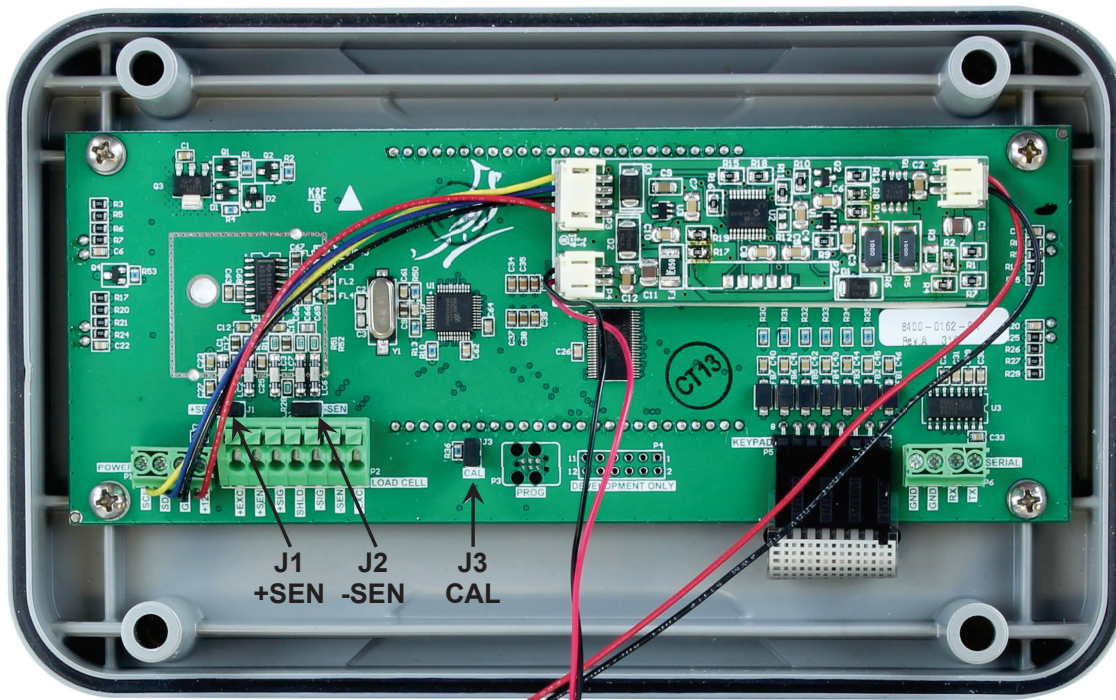

Figure No. 11
*** NOTE:** If the sense leads are NOT used, you must install plug-in jumpers at J1 and J2 adjacent to the terminal block. These jumpers attach the sense leads to the excitation leads. If sense leads ARE used (as in motor truck scales), these plug-in jumpers should be positioned on one plug-in pin only or removed and stored for later use (see Figure No. 11).
4. Connect each of the wires to the Serial Data terminal block (P6) referring to Figure No. 11 for terminal block locations.